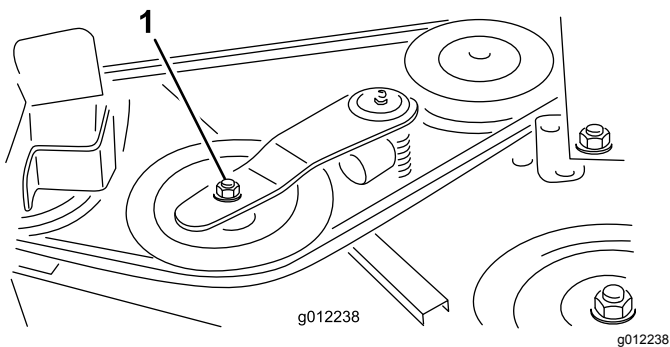
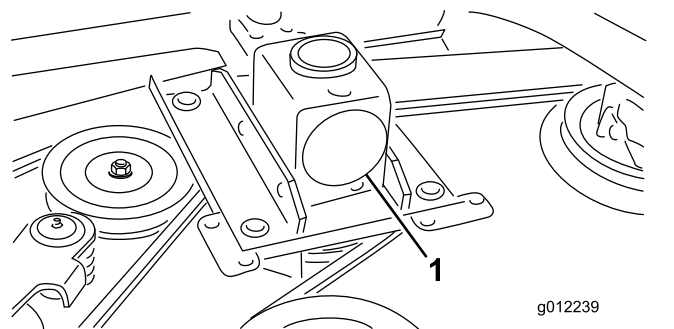

Figure 33
Figure 34
2. Using a torque wrench or similar tool, move the idler pulley (Figure 33) away from the drive belt to release the belt tension and allow the belt to be slipped off the gearbox pulley (Figure 34).